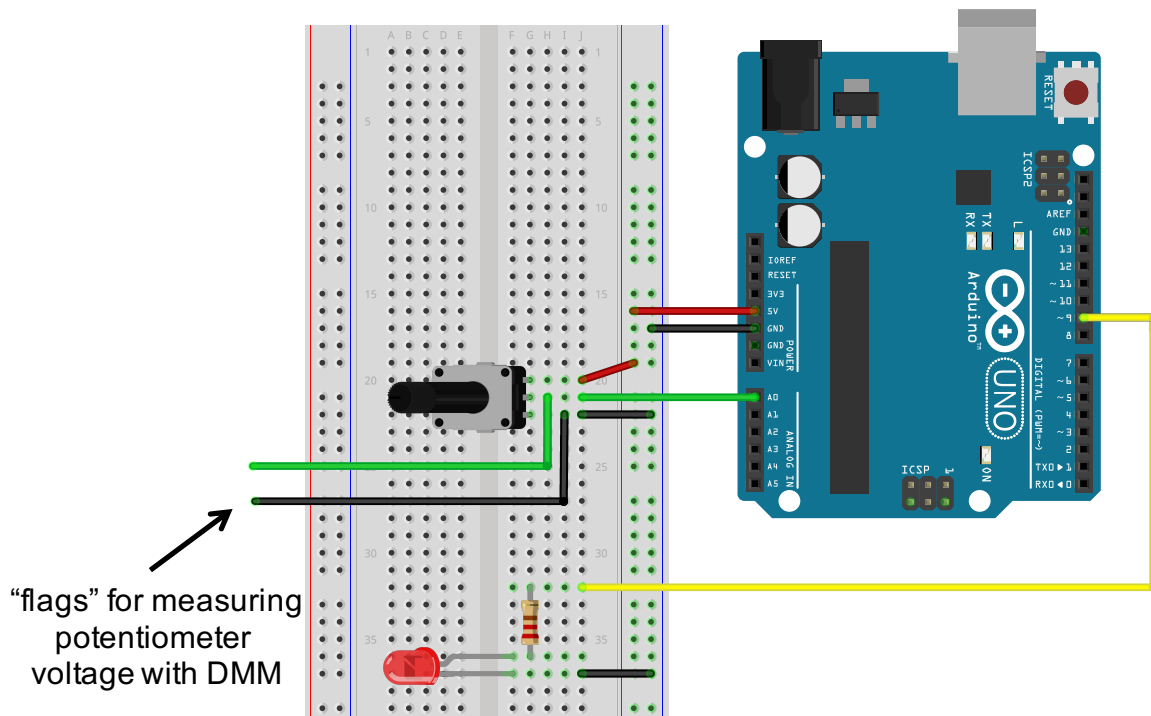

Figure 3 – The potentiometer and LED are mounted in the breadboard and connected to the Arduino.
The potentiometer can be used as a variable voltage source. However, it is not capable of producing large currents, because the resistances of the potentiometer are fairly large, typically over 1000 Ohms. Thus, the potentiometer cannot be used to directly control the brightness of the LED. To overcome this, we will use the Arduino microcontroller as a digital amplifier. Shown in Figure 3, the analog input pin A0 of the Arduino reads the voltage from the potentiometer and stores it in memory as a 10-bit integer between 0 and 1023. This 10-bit integer is then linearly mapped to an 8-bit integer between 0 and 255, which controls the duty cycle of the PWM signal from pin 9. (In the code, the “analogWrite” function maps the integer 0 to 0% duty cycle, and 255 to 100% duty cycle.) The LED is connected to this digital output, and its brightness can be logically traced back to the angle of the potentiometer knob.
5. Insert the potentiometer into the breadboard near the top, as shown in Fig. 3. Make the following connections:
7. Connect the LED and a 220Ω in series between digital output pin 9 and ground, as shown in Fig. 3. Make sure that the shorter “cathode” wire of the LED is on the ground (negative) side of the circuit.